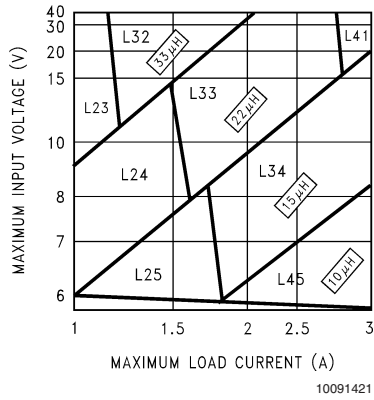
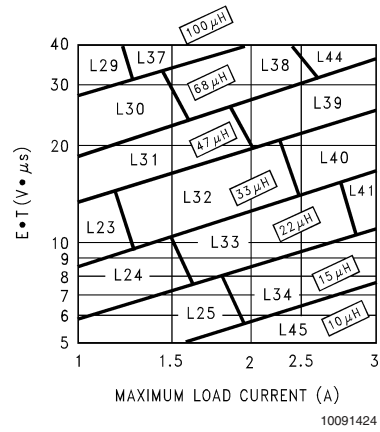

FIGURE 3. LM2676-3.3
FIGURE 6. LM2676-ADJ
Step 3: Determine the inductor required by using one of the four nomographs, *Figure 3* through *Figure 6*. Table 1 provides a specific manufacturer and part number for the inductor.
Step 5: Determine an input capacitor from Table 4 for fixed output voltage applications. Use Table 2 to find the specific capacitor type. For adjustable output circuits select a capacitor from Table 2 with a sufficient working voltage (WV) rating greater than $V_{in\ max}$, and an rms current rating greater than one-half the maximum load current (2 or more capacitors in parallel may be required).
Step 3: Use the nomograph for the 3.3V device, *Figure 3*. The intersection of the 16V horizontal line ($V_{in\ max}$) and the 2.5A vertical line ($I_{load\ max}$) indicates that L33, a 22 μ H inductor, is required.
Step 3: To use the nomograph for the adjustable device, *Figure 6*, requires a calculation of the inductor Volt•microsecond constant ($E \cdot T$ expressed in V• μ S) from the following formula:
Using *Figure 6*, the intersection of $27V \cdot \mu s$ horizontally and the $2A$ vertical line ($I_{load} \max$) indicates that L38, a $68\mu H$ inductor, should be used.
Figure 6, selects an inductance of $22\mu H$ or less, Table 6 does not provide an output capacitor solution. With these conditions the number of output capacitors required for stable operation becomes impractical. It is recommended to use either a $33\mu H$ or $47\mu H$ inductor and the output capacitors from Table 6.